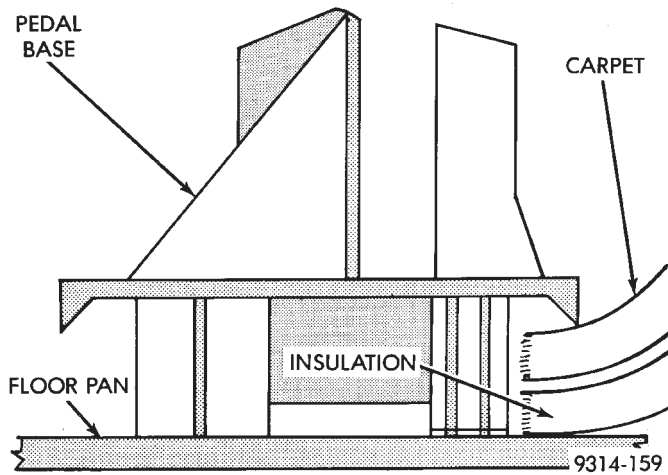

Fig. 4 Carpet and Insulation Placement
(1) Position accelerator pedal assembly over studs onto dash panel. Ensure carpet and insulation are trapped between the lip of the pedal base and the floor plan (Fig. 4). Install mounting nuts and tighten to 12 N•m (105 in. lbs.) torque.
(2) From inside the vehicle, hold up the pedal and install the throttle cable and cable retainer in the upper end of the pedal shaft.
(3) From the engine compartment, hold the throttle body lever in the wide open position and install the throttle cable.